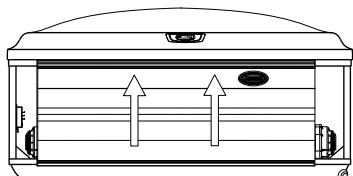

Figure 13.2b
- Grab the bottom of the front panel and slightly lift to release it from the top mount, Figure 13.2b. Tilt the panel and pull down to remove. Place the panel in a safe location to prevent from damaging it.